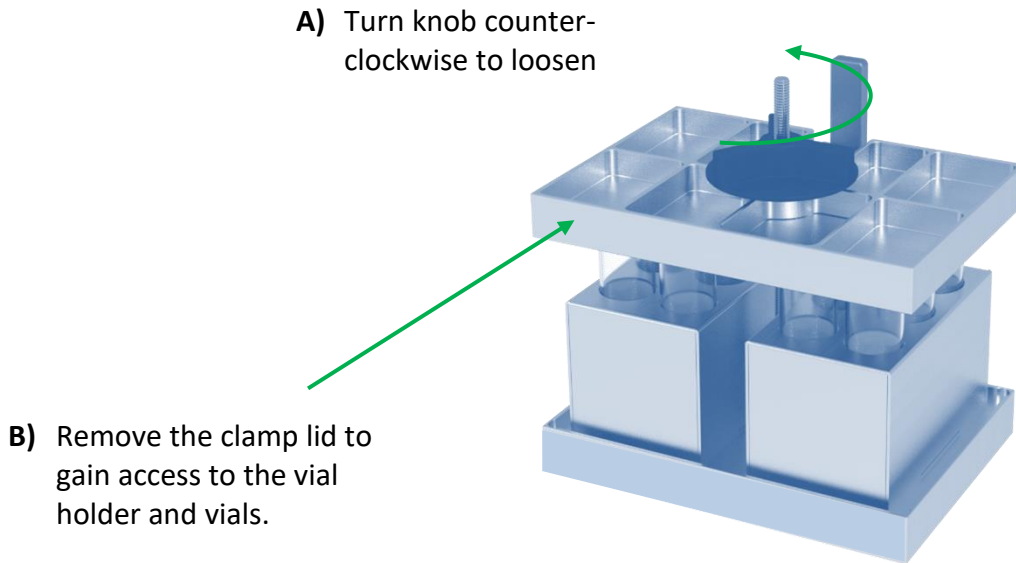

Figure 20 – Releasing the 2012 Clamp Lid
2. Turn the clamp lid knob counterclockwise until it rotates freely (Figure 20).